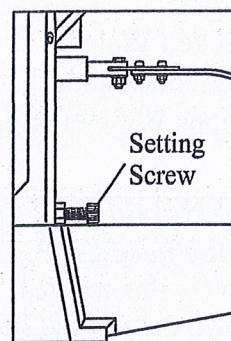

Fig 4
- Turning the setting screw in a clockwise direction to reduce the stitching length(Fig 4) and turning the setting screw in a anti-clockwise direction to increase the stitching length.